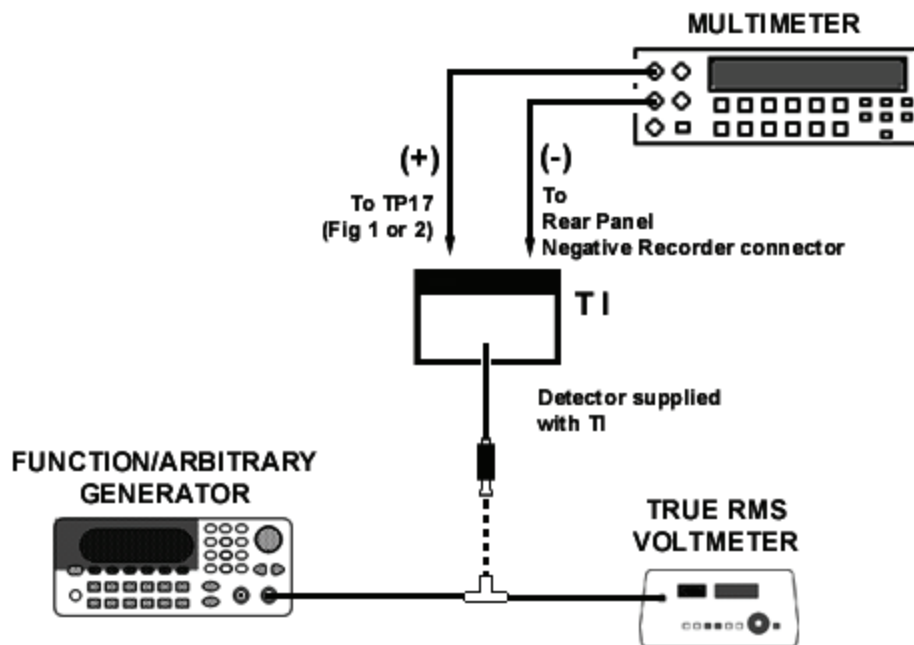

Figure 3. Main gain - equipment setup.
(1) Zero TI meter as described in paragraph **7 h** above.
(2) Remove top protective cover from TI.
(3) Connect equipment as shown in figure 3.